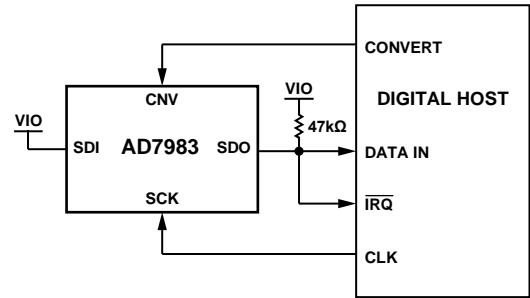
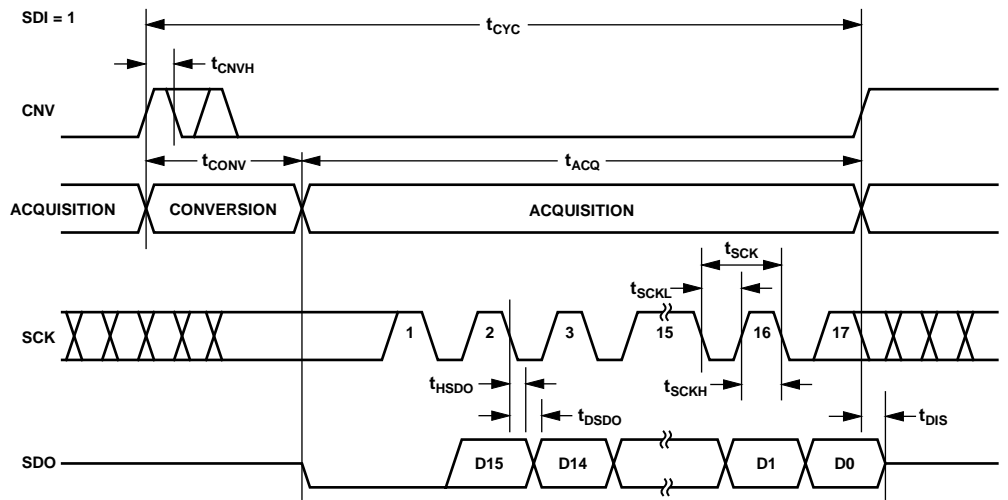
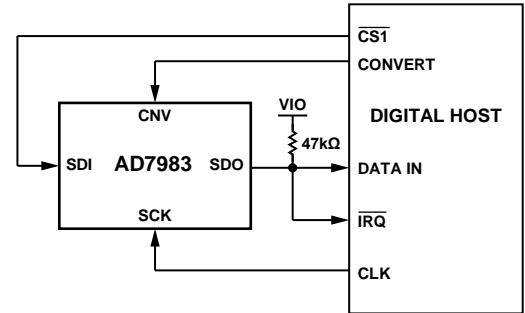
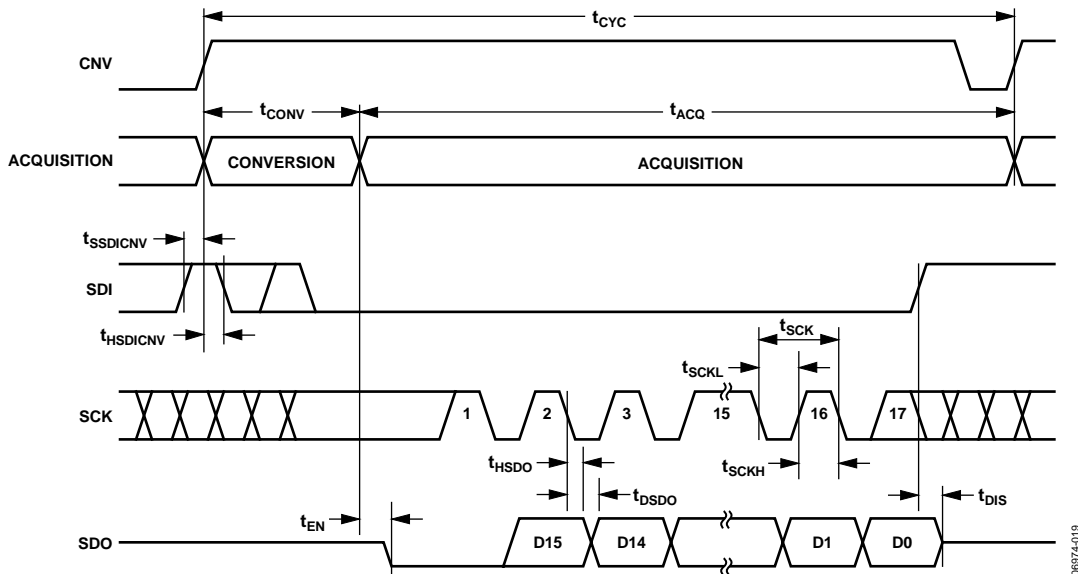

Figure 27. $\overline{\text{CS}}$ Mode, 3-Wire with Busy Indicator Connection Diagram (SDI High)
Figure 28. $\overline{\text{CS}}$ Mode, 3-Wire with Busy Indicator Serial Interface Timing (SDI High)
Figure 31. \overline{CS} Mode, 4-Wire with Busy Indicator Connection Diagram
Figure 32. \overline{CS} Mode, 4-Wire with Busy Indicator Serial Interface Timing
- In $\overline{\text{CS}}$ mode if CNV or SDI is low when the ADC conversion ends (see Figure 28 and Figure 32).
The connection diagram is shown in Figure 27, and the corresponding timing is given in Figure 28.
The connection diagram is shown in Figure 31, and the corresponding timing is given in Figure 32.